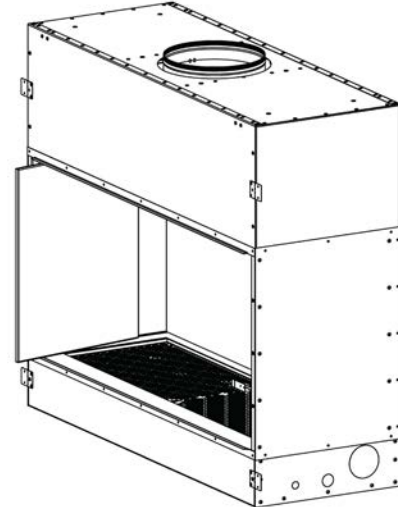
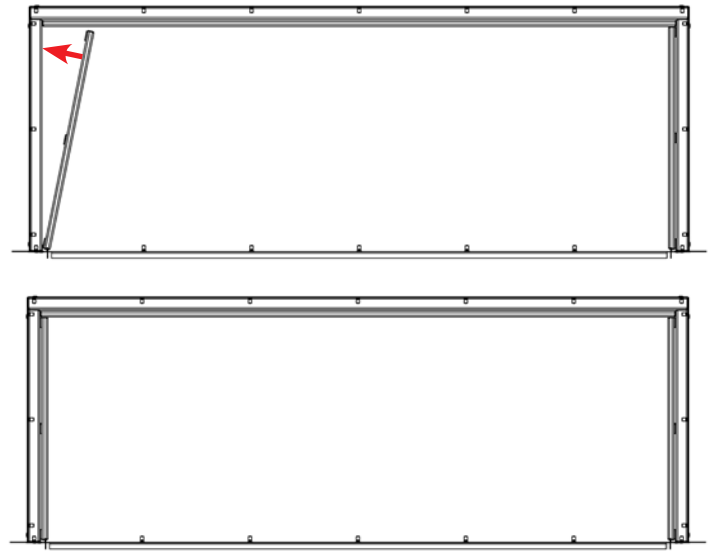

Figure 38 - Side Panel Installation
Figure 39 - Side Panel - Top View
1. Insert the side panel, whether right or left, through the corresponding side wall, as close to the internal walls of the fireplace as possible (see figure 38). Rotate it slightly so that the front edge will sit on the viewing area. Then pivot the panel to push the short edge (close back wall) to the side wall (see figure 39). Repeat the same steps for the remaining side.